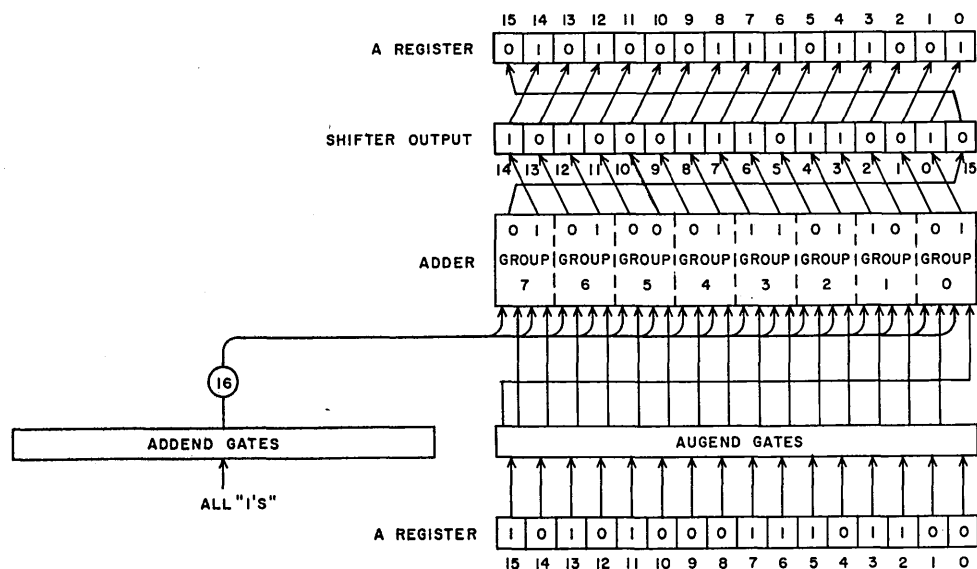

Figure 8. Example of an (A) Left Shift
All Left Shifts are end-around. Thus, on a Long Left Shift (LLS), the bit in stage 15 of Q shifts to stage 0 of A. The LLS function is described in more detail in the Adder Group 0 section (page 57). In the Short Left Shifts, bit 15 shifts to bit 0. The simplified illustration in Figure 8 shows an example of a Left Shift operation of (A).
Figure 8 shows the bit positions of the Adder outputs relative to their positions in the groups. For example, the stage 0 output is shown adjacent to the stage 15 output in group 0. The shift of the low-order stage of a group to the high-order stage takes place on the corresponding V00 module. The output of the high-order stage on a group transfers to the output of the low-order stage on the adjacent high-order group.